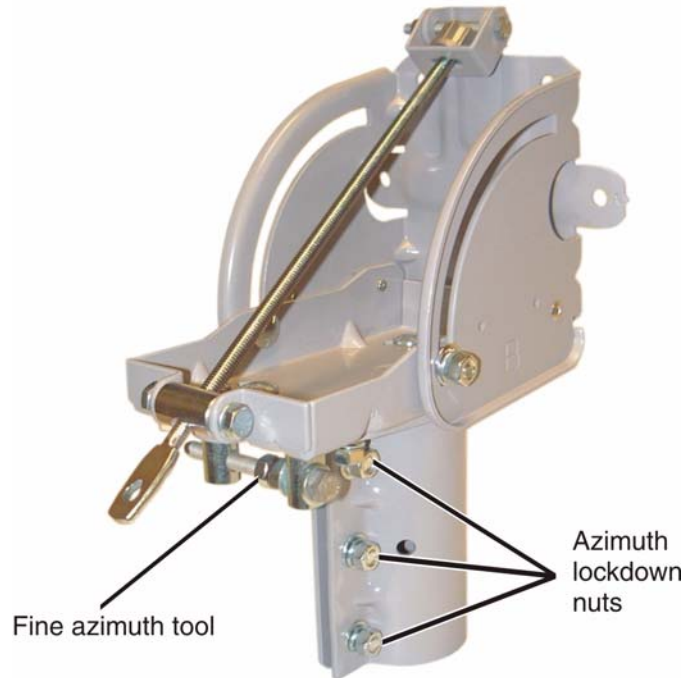

Figure 34: Loosen the Az/EI canister
1. Be sure that the three 5/16-inch azimuth lockdown nuts at the bottom of the Az/EI canister (shown in Figure 34) are loose enough that the canister rotates freely on the mast.